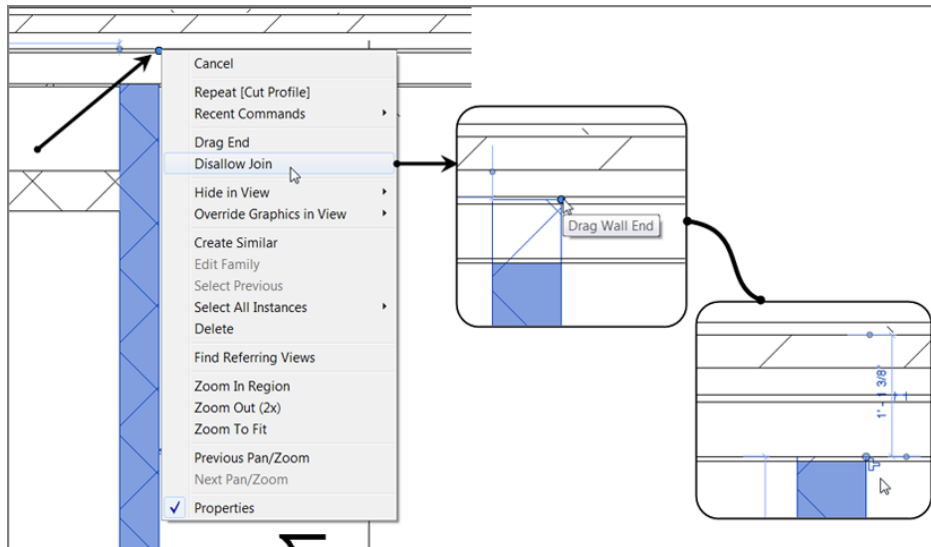

FIGURE 2.60: Pull the CMU out of the wall, disallow the join, and then drag it back into the face of the stud.
1. Zoom in on the right side of the elevator shaft at the intersection of the exterior wall, as shown in Figure 2.60.
3. Select Disallow Join (see Figure 2.60).